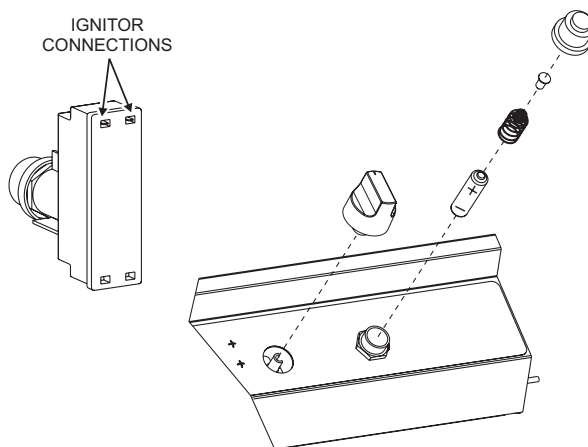

Figure 30
7. Re-attach the ignitor to the control panel, then tighten nut and insert AA battery, positive side up, and replace ignitor button. **See Figure 30.**